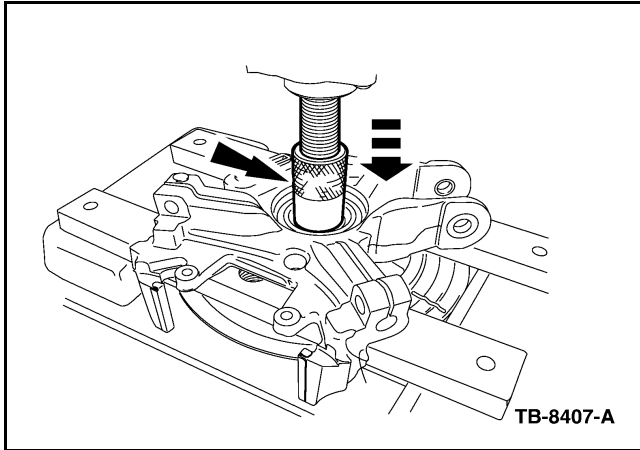

Figure 5 - Article 05-25-8
13. Using a suitable press, remove the wheel hub (Figure 5).